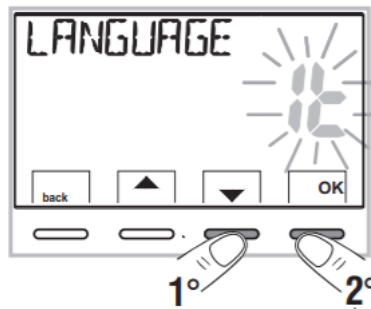

Figure 2.6
1. Upon inserting the batteries, the system will perform a lamp test, then it will ask for the language. Use the ▲▼ keys to scroll through the languages and press **OK** to confirm. (See Figure 2.6)